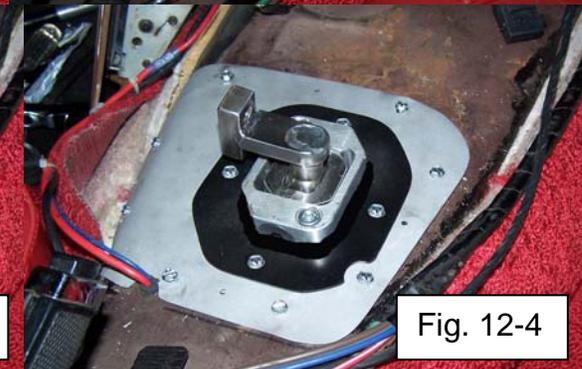

Fig. 12-4
- e. Apply bead of the sealant around perimeter of the shift tower to complete the tunnel patch. See Fig.12-4.